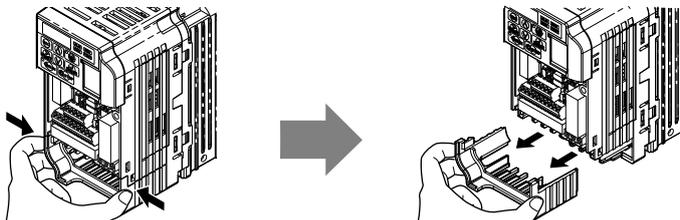

Figure 5 Remove the Bottom Cover on an IP20/Open-Chassis Drive (Models BA0001B to BA0003B and 2A0001B to 2A0006B)
- For IP20/Open-Chassis models CIMR-V□□A□□□□B, remove the bottom cover of the drive by applying pressure to the tabs on each side of the bottom cover. Pull the bottom cover away from the drive while pushing in on the tabs to release the cover from the drive. Refer to Figure 5 for details.